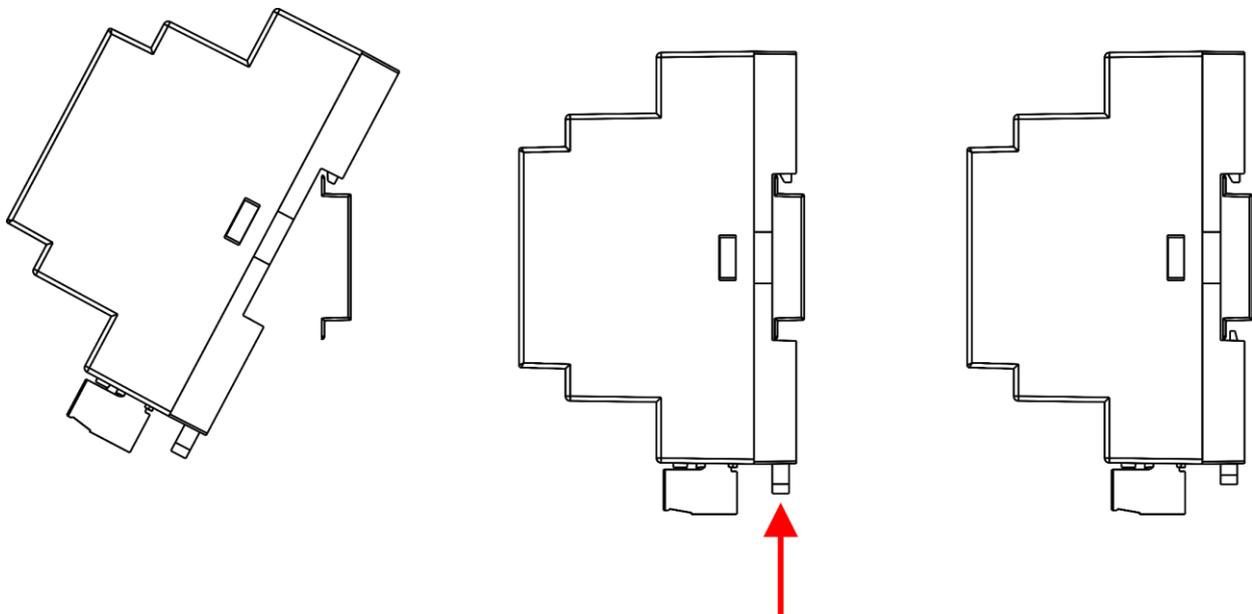

Fig. 04
- 02) Push the **DIN rail locks (07)** to mount the device firmly on the DIN rail (see Fig. 04).